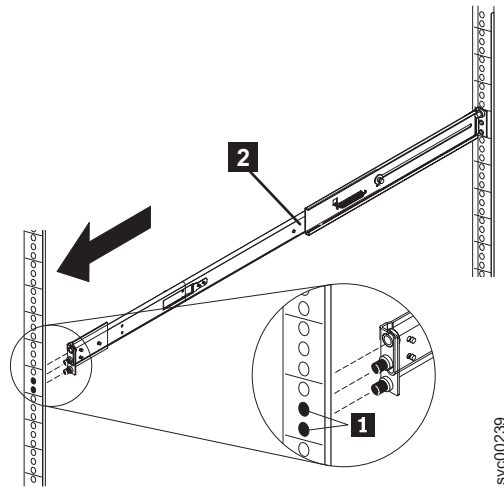

Figure 22. Extending the right slide rail
4. Extend the right slide rail **2** and insert it into the front rack mounting flange, as shown in Figure 22 on page 25, with the rail pins **1** protruding through